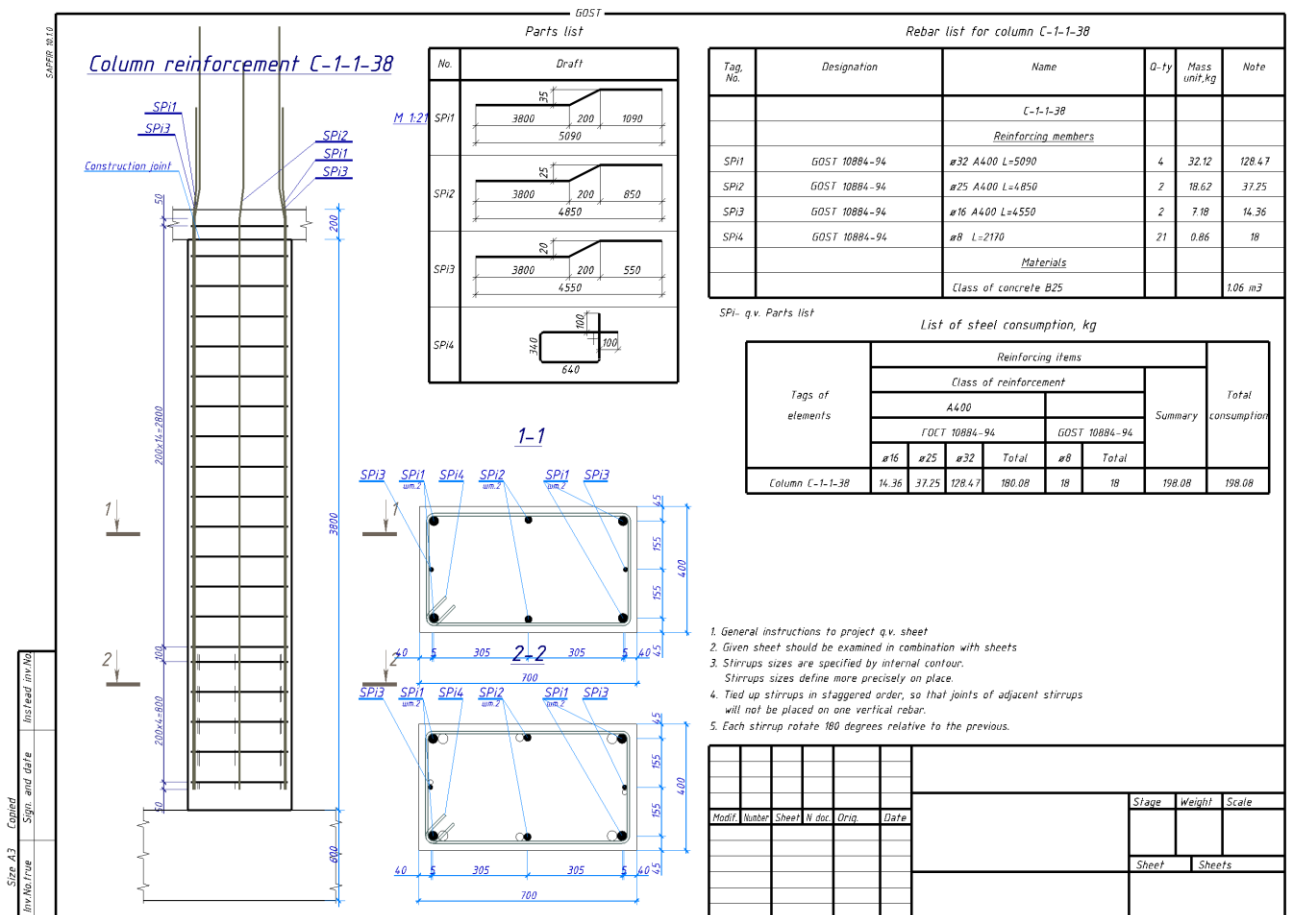

Figure 27.25. Drawing with reinforcement in column
- ⇒ In the **Views** window, select the C-1-4-38 row in the **Assemblies** folder, then drag the model of column reinforcement to the sheet (see Fig. 27.25).